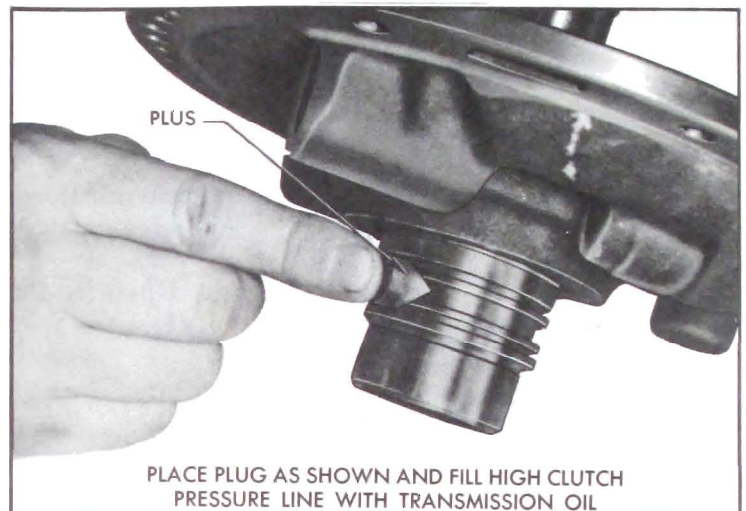

Figure 5-363—Checking Cross Leakage Between Pump Cover and stator shaft
2. Check for suction leak as described in items 1 and 3.
b. Check pump cover and stator shaft for cross leakage. See Figure 5-363.